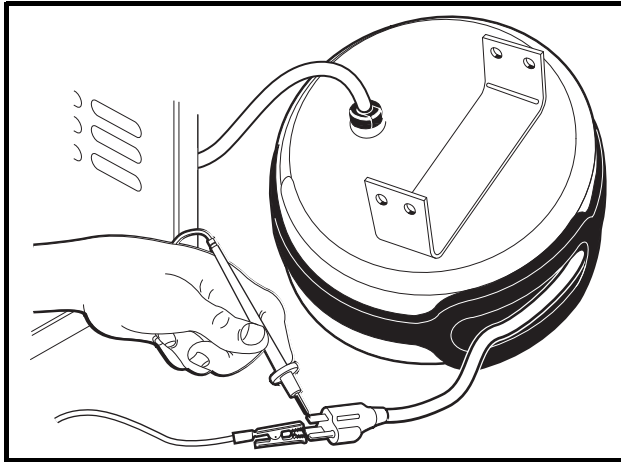

Figure 4-12 AC Circuit Continuity Test
- 5.4. With relay bypassed, there should be continuity across the AC cord blades (**Figure 4-12, Page 4-14**).